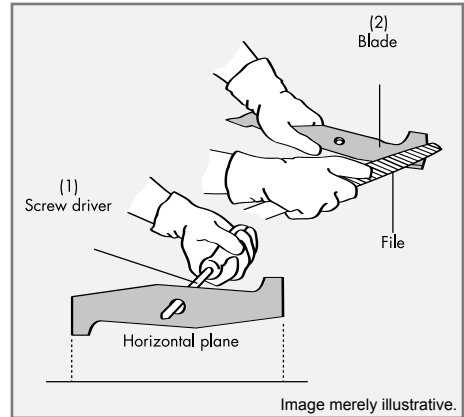

Figure 7
- ✓ To check whether the balance is right, place a screw driver in the blade hole and observe the balance. If it is not right, balance it by sharpening the blade until the removal of material leaves it balanced again (Fig. 7).
- Make sure the blade is balanced. Use a screwdriver and keep the blade parallel to a horizontal plane, as shown in Figure 7. A balanced blade will remain parallel to the ground. If it is unbalanced, the heavy side will turn to the ground. Sharpen the heavy side until the blade is balanced.